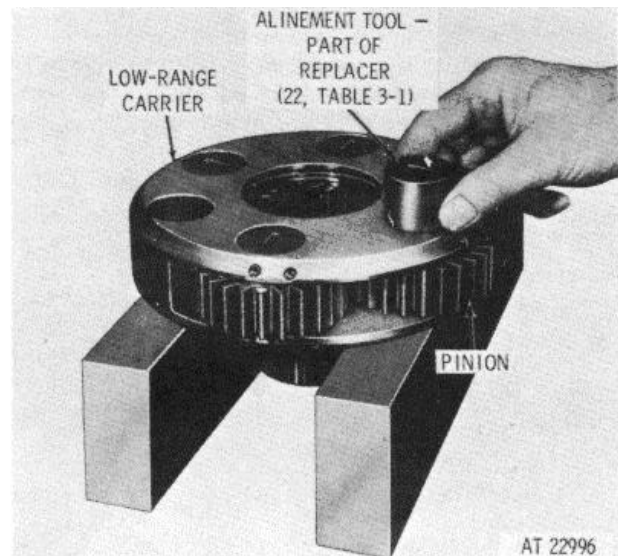

Figure 7-13. Alining pinion assembly in low-range planetary carrier.
a. Remove four pins (51.8) from low-range planetary carrier (52), pressing or driving the pins toward the inside of the carrier.
b. Using an alinement tool of replacer (22, table 3-1), (fig. 7-13), remove four pinion spindles (51.1, FO-4).
e. Install the pinion with rollers, spacers and thrust washers into the carrier. Using an alignment tool of replacer (22, table 3-1), align the pinion and its component parts with the spindle bore in carrier (52, FO-4). Refer to figure 7-13.